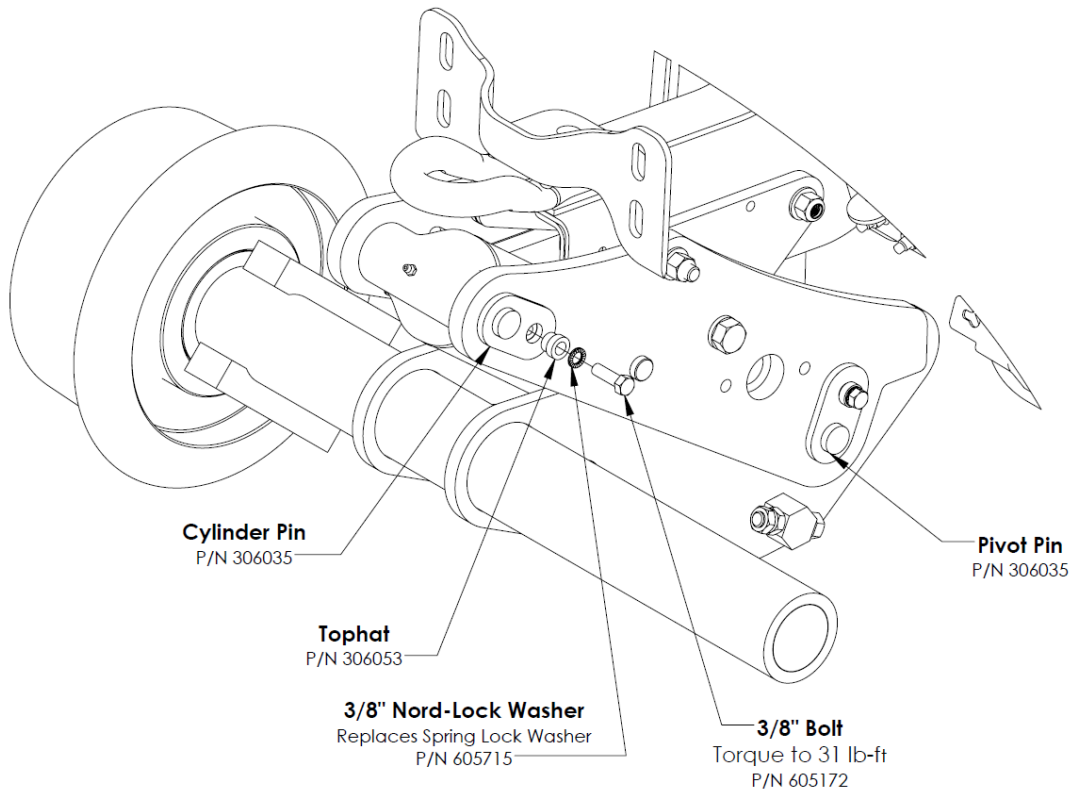

Figure 1. RW-1019B Front Pin Lock Washer Replacement – Ford & Ram
2. Remove the 3/8" bolts retaining the cylinder pin and the pivot pin (**FIGURE 1**; Ford shown, Ram similar).